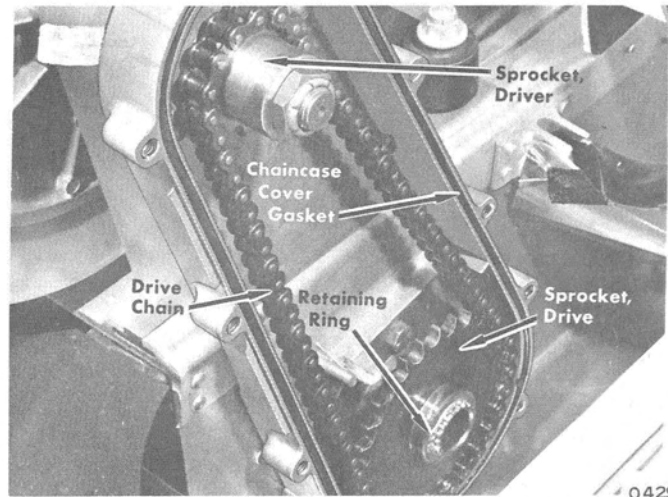

Figure 6. Removing Snap Ring
6. Remove snap ring from drive shaft and remove driver sprocket and chain. (Figure 6)